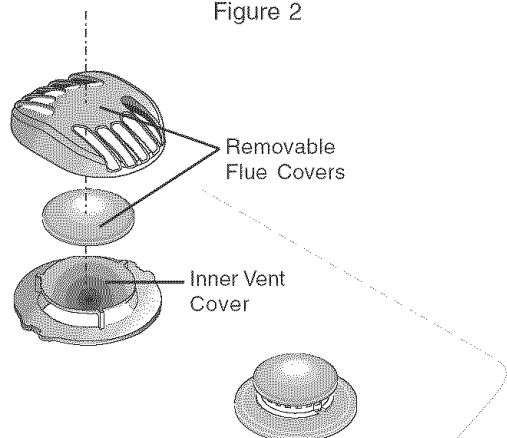

Figure 3
4. Place the 2 (two) flue covers over the inner vent cover as shown on figure 3.